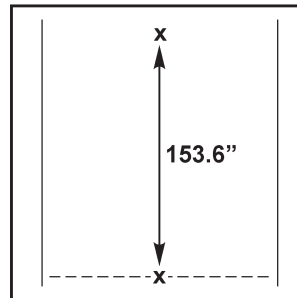
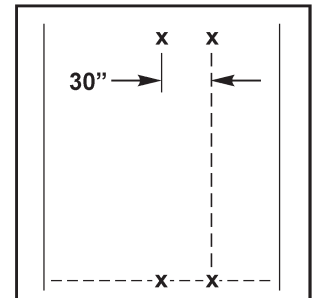
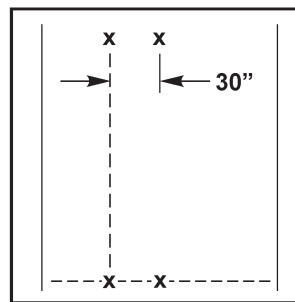

Figure 19
Figure 20
Figure 27
- Find and mark the center of the lane at the base and 153.6 inches above the base (see Figure 19).
- Measure 30 inches to the RIGHT of each center point in Figure 19 and snap a vertical chalk line (see Figure 20).
3. Measure and mark 30 inches to the LEFT of each center mark in Figure 19 and snap a vertical chalk line (see Figure 27).